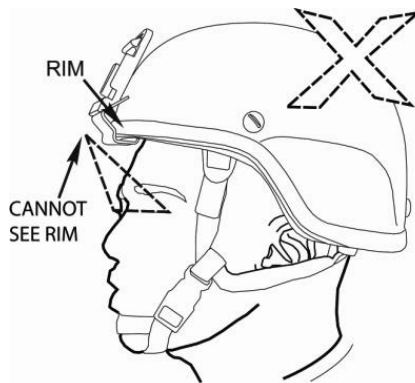

Figure 4. Helmet Too High — User Cannot See Rim.
4. Look upward by moving eyes, without moving head, and determine if the rim of the helmet is visible. If the Soldier does not see the rim as shown in Figure 4, the helmet is too high.